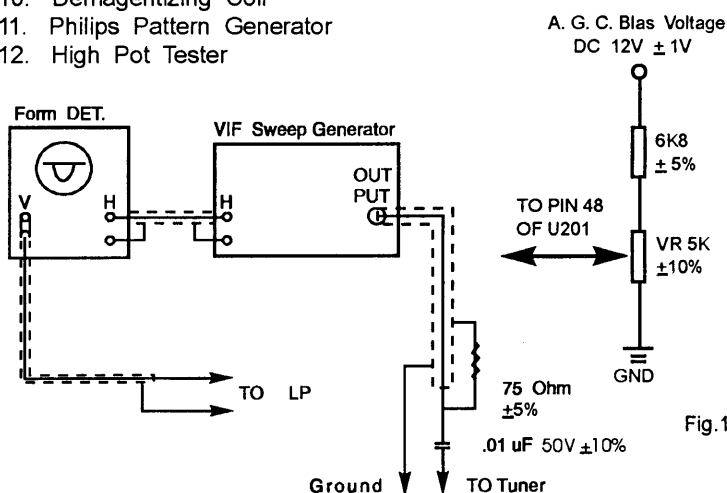

Fig.1b
3. Connect A.G.C. Bias Voltage to PIN 48 of U201 \*A.G.C. Bias Voltage can't over 5V. (see fig.1b)